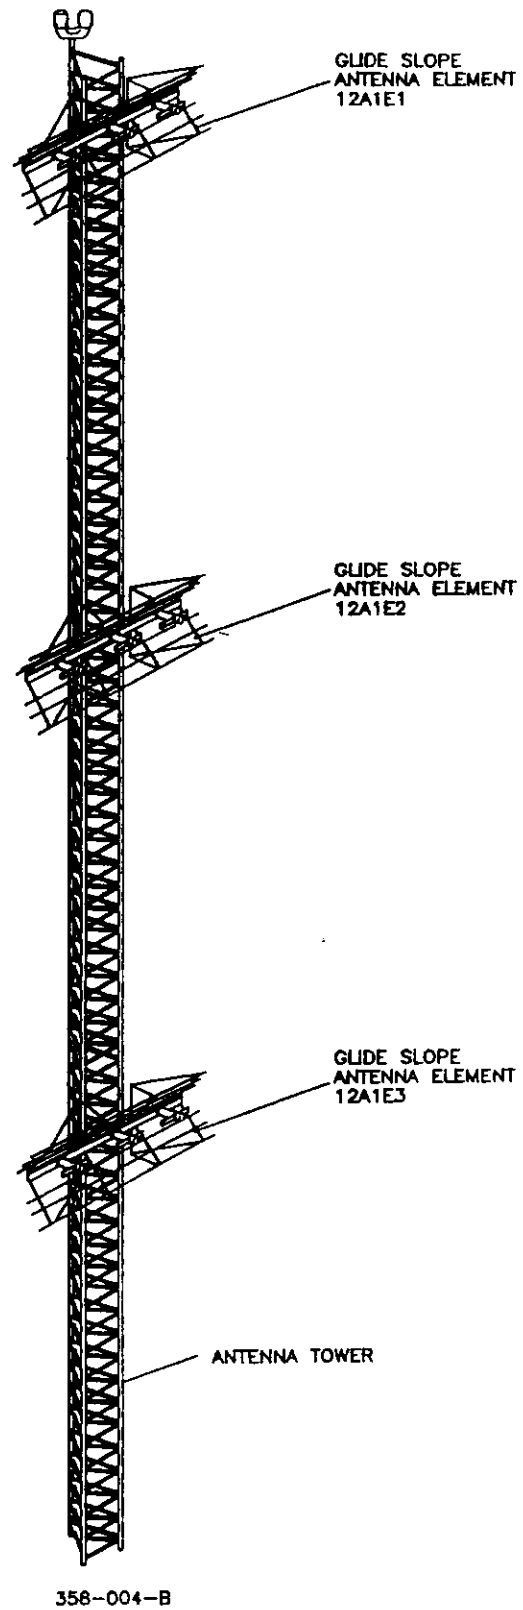
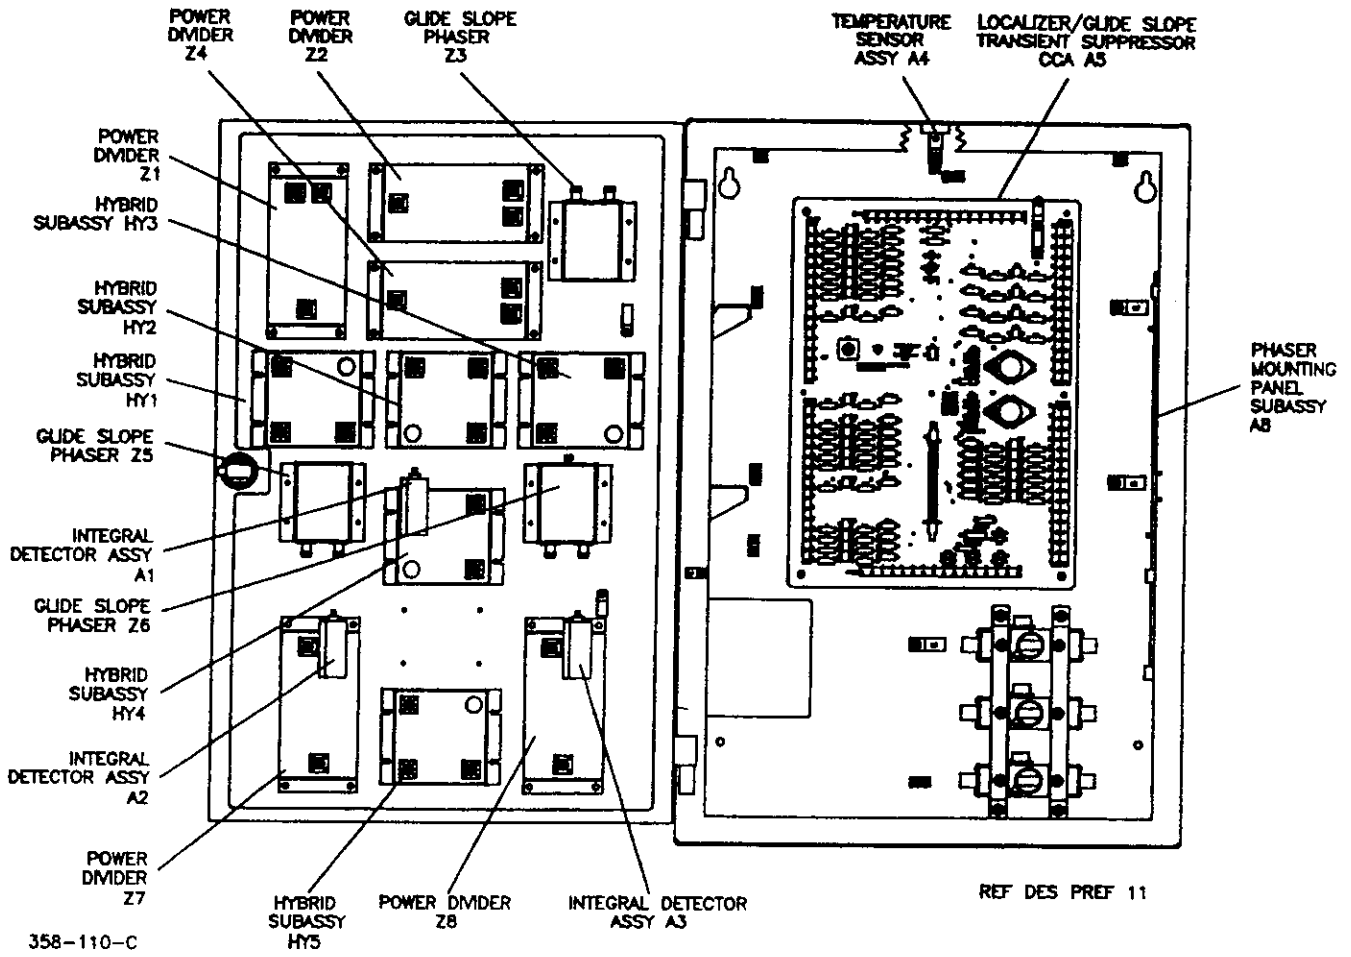

Figure 1-3. Glide Slope Antenna Subsystem 12
Figure 1-4. Glide Slope Distribution Unit and Combining Unit 11
1.2.1.2 Glide Slope Antenna Subsystem 12.- See figures 1-3 and 1-4. Capture effect glide slope antenna subsystem 12 consists of three glide slope antenna elements 12A1E1 through 12A1E3, glide slope distribution unit and combining unit (ducu) 11, three glide slope antenna mounting kits, a glide slope antenna tower kit, and a glide slope antenna cable kit. Each glide slope antenna element consists of three horizontally polarized, collinear dipoles mounted in front of a 90° corner reflector. The three dipoles are installed on a mounting frame that, in turn, is installed on the 15.24-meter (50-foot) high triangular glide slope antenna tower. Middle antenna element 12A1E2 is located at the approximate center of the glide slope antenna tower with upper antenna element 12A1E1 offset toward the runway and lower antenna element 12A1E3 offset away from the runway. The amount of offset is determined by antenna element heights and distance to the runway centerline. The glide slope antenna tower consists of four tower sections: two 6.10-meter (20-foot) sections and two 1.52-meter (5-foot) sections. The glide slope shelter and glide slope antenna tower are located on either side of the runway along a line that is parallel to and between 121.92 and 198.12 meters (400 and 650 feet) from the runway centerline. Distance from runway threshold is between 243.84 and 396.24 meters (800 and 1300 feet). Glide slope ducu 11 (figure 1-4) is mounted on an inside wall of the glide slope shelter. Accessible at the front door of glide slope ducu 11 enclosure are the following controls: CARRIER POWER DIVIDER 11Z1, SIDEBAND A POWER DIVIDER 11Z2, CARRIER TO SB PHASER 11Z3, SIDEBAND B POWER DIVIDER 11Z4, MIDDLE ANTENNA PHASER 11Z5, UPPER ANTENNA PHASER 11Z6, CLEARANCE POWER DIVIDER 11Z7, AND PATH/WIDTH POWER DIVIDER 11Z8. These assemblies are mounted on the inside of the front door. Also mounted on the inside of the front door are hybrid subassemblies 11HY1 through 11HY5 and integral detectors 11A1 through 11A3. Temperature sensor assembly 11A4 is installed on top of the enclosure with the sensing circuitry protruding into the interior of the enclosure through a cutout. Phaser mounting panel subassembly 11A8 is installed on the inside right side of the enclosure and glide slope transient suppressor cca 11A5 is installed on the inside rear wall of the enclosure.